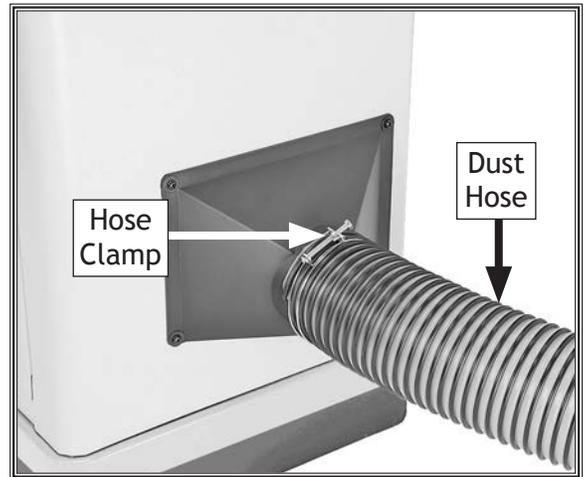

Figure 14. Example of dust hose connected to dust port.
1. Fit a 4" dust hose over the dust port, as shown in **Figure 14**, and secure it in place with a hose clamp.